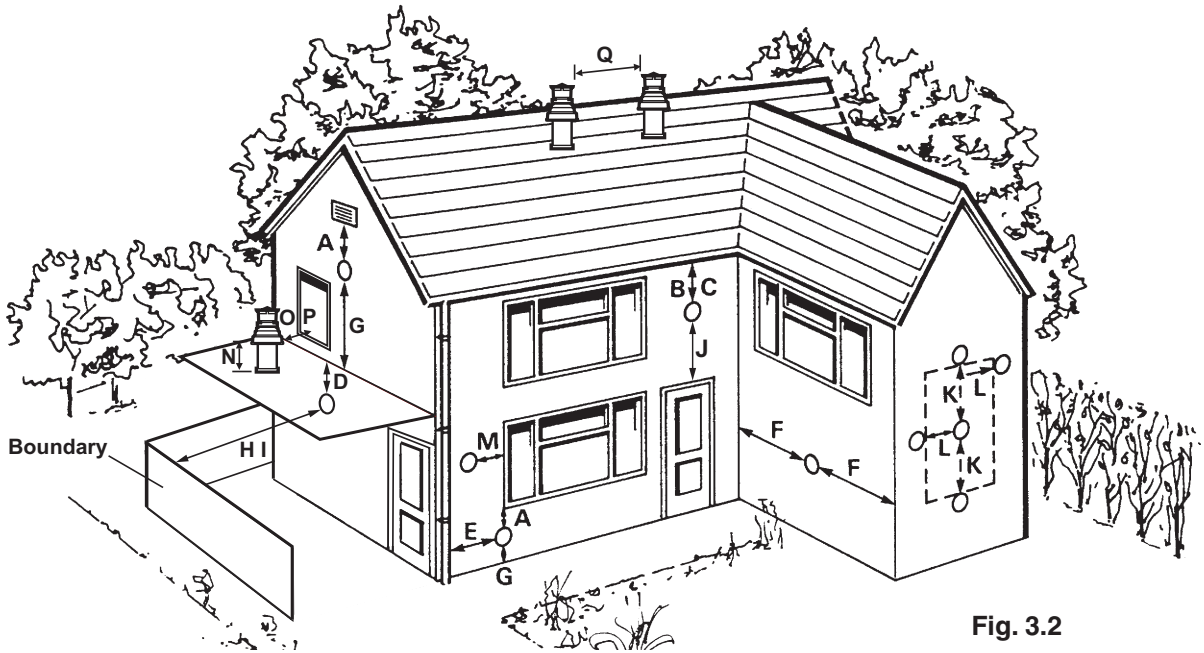

Fig. 3.2
3.5 FLUE TERMINAL LOCATION - Figs. 3.2 and 3.3